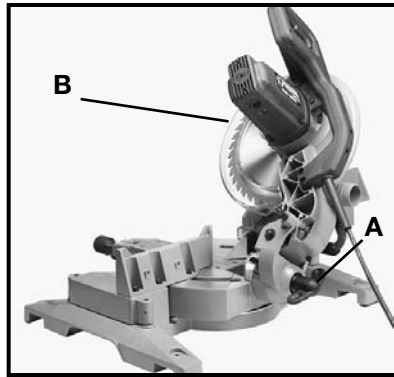

Fig. 18
1. The cuttinghead of your compound miter saw can be tilted to cut any bevel angle from a 90 degree straight cut-off to a 45 degree left bevel angle by loosening bevel lock handle (A) Fig. 18, tilting cuttinghead (B) to the desired angle, and tightening lock handle (A).